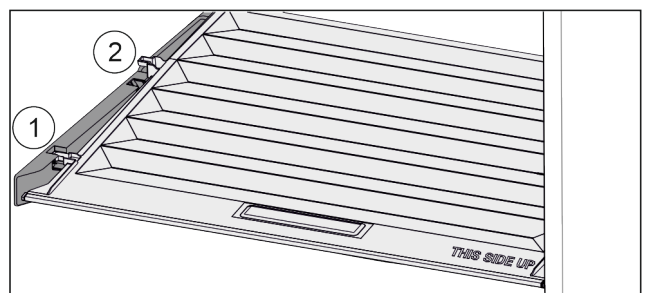

Fig. 36
- ▶ Pull the lid up at the front in the retaining parts to the opening Fig. 36 (1).
- ▶ Lift from the back and pull it up and out Fig. 36 (2).